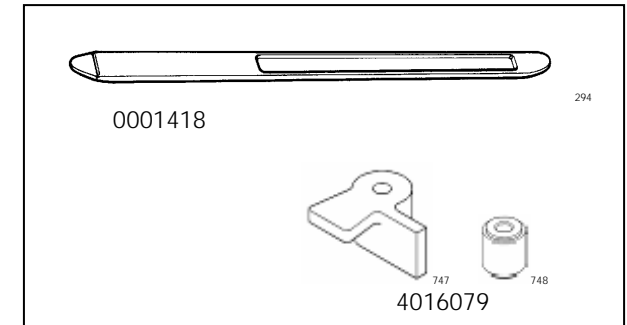

Fig.3
1.4 STANDARD ACCESSORIES (Fig. 3)
1.4 ACCESSOIRES D'origine (Fig. 3)